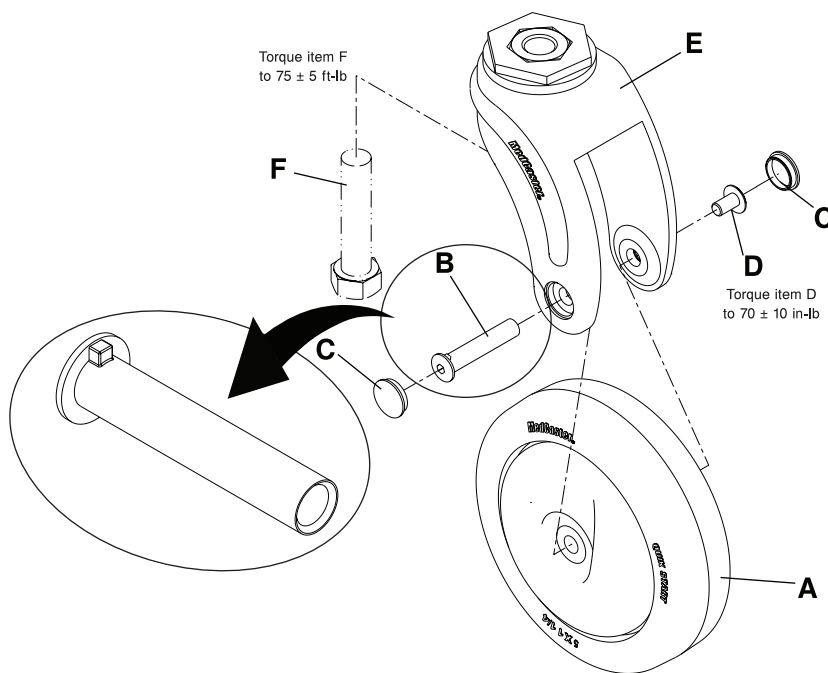

Figure 26: Front caster assembly replacement
2. Using a pick, remove and discard the caster wheel axle barrel nut covers (C) (Figure 26 on page 43).
3. Using two 5/32" hex wrenches, remove the axle barrel nut (B) and axle screw (D). Discard the axle barrel nut and axle screw.
4. Grasp the front caster wheel (A) and pull outward to remove the wheel from the fork (E). Discard the front caster wheel.
5. Using a 3/4" socket and a 3/8" drive ratchet, remove the bolt (F) to remove the fork (E) from the chair frame. Discard the fork.
6. Reverse steps 2-5 to install the supplied front caster wheel assembly. Using a 3/8" drive torque wrench (ft-lb), torque the bolt (F) to 75 ± 5 ft-lb before installing the caster to the fork. Using a 3/8" drive torque wrench (in-lb), torque the axle screw (D) to 70 ± 10 in-lb.
Note: The axle barrel nut (B) head is keyed (Figure 26 on page 43). Properly align the nut in the caster fork (E).